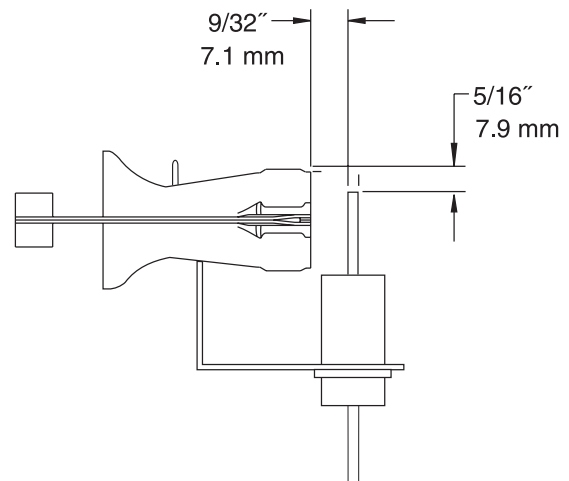
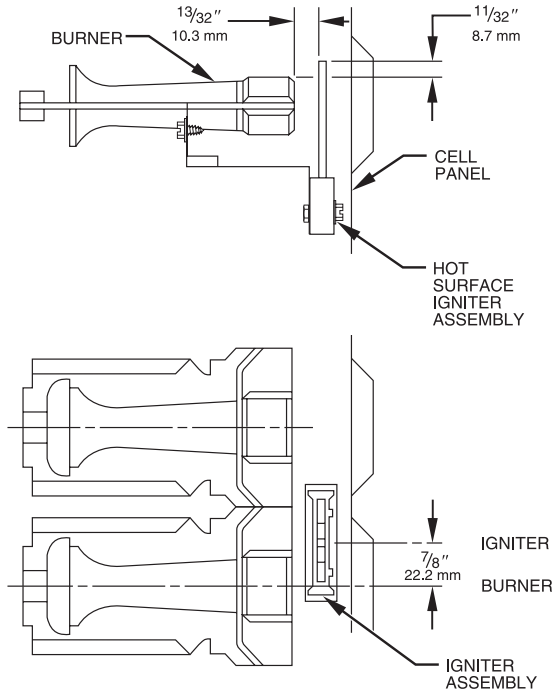

Fig. 5 - Igniter to Burner
**Fig. 7 - Igniter to Burner**
- d. Reattach HSI wires to HSI. Verify igniter to burner alignment. For Silicon Nitride igniters, see Fig. 5 and 6. For Silicon Carbide igniters, see Fig. 7.